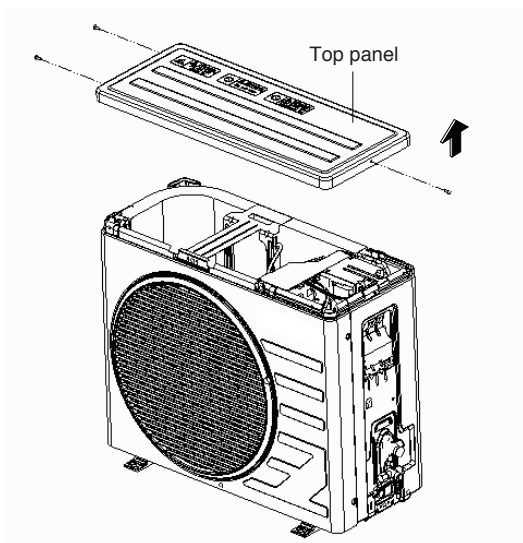

Fig. 53
- (1) Loosen the 3 screws (front, right and left) and lift the top panel. (Fig.53)